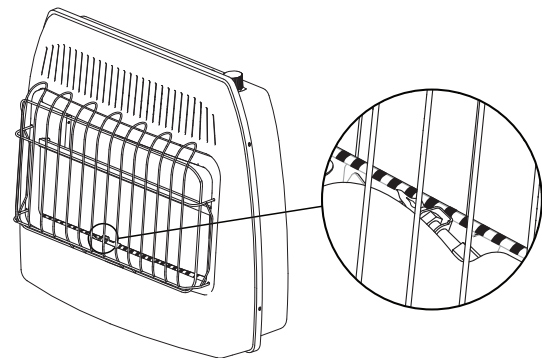

Fig. 24 - Pilot Flame Location
6. With control knob depressed, push down on the ignitor button until the pilot lights. The pilot is visible centered below the plaques, behind the front grill. (See Fig. 24)
7. Keep control depressed for (30) seconds after pilot lights. Release control knob.
**Note:** If pilot goes out repeat steps 3 through 7. Wait (1) minute before attempting to light pilot again.
**Note:** If pilot goes out repeat steps 3 through 7. Wait (1) minute before attempting to light pilot again. If after several tries the pilot still goes out, turn the gas control knob clockwise ↷ to the "OFF" position and call your service technician or gas supplier. If the control knob does not pop up when released, stop and immediately call your service technician or gas supplier.